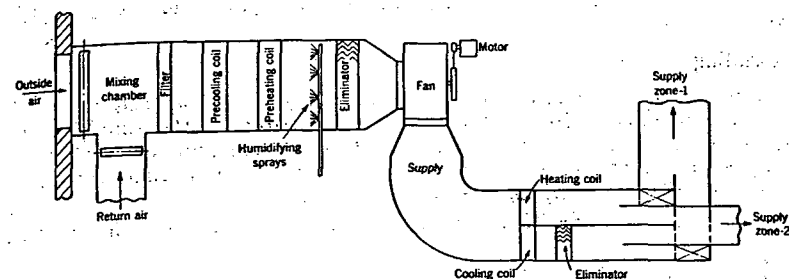

FIG. 3. BLOW THROUGH SYSTEMS WITH COILS AND MIXING DAMPERS
3. Blow through system with heating and cooling coils and mixing dampers (Fig. 3). This is used where several different zones are served from one central system and the conditioning of the entering air for each zone is obtained by mixing varying quantities of air after passing through the heating and cooling coils.